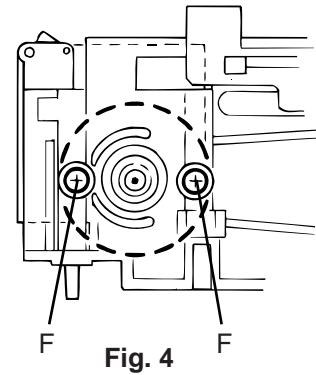

Fig. 4
■Detaching the capstan motor (Fig. 4)